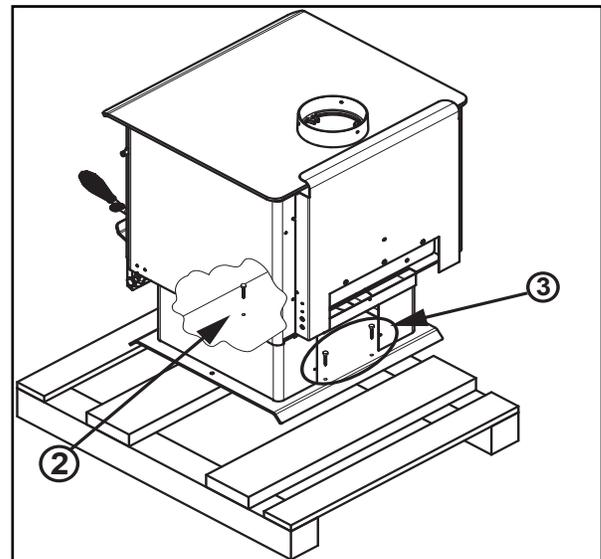

Figure 6.1 Millennium appliance
- Using 7/16 socket or wrench remove one bolt located inside front part of appliance (**Figure 6.1**).
- Moving to the back of the appliance and using 7/16 socket or wrench remove two bolts (**Figure 6.1**).